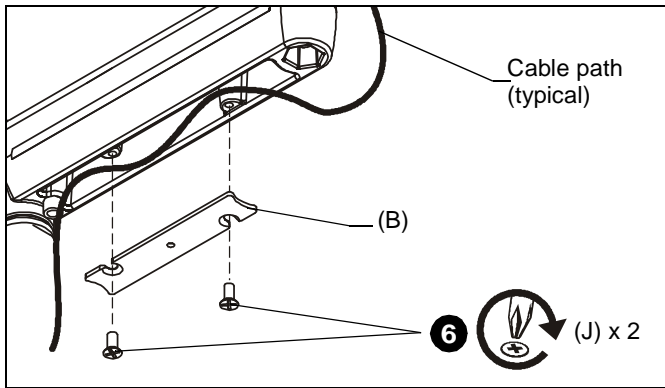

Figure 8
- Carefully insert cables into cavity located in lower portion of mount arm. (See Figure 8)
- Install cable management cover (B) using two #8-32 x 3/8" Phillips flat head screws (J). (See Figure 8)